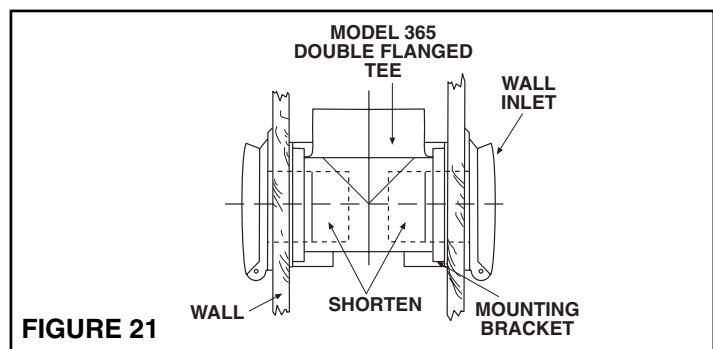

FIGURE 21
**NOTE:** when wall inlets are installed in walls that are less than  $\frac{1}{2}$ " thick or when inlets are installed back-to-back in a wall, the tube of the wall inlet may extend into elbow area of the flanged fitting and cause blockage. Shorten the wall inlet tube to prevent this condition. Refer to Figure 21.